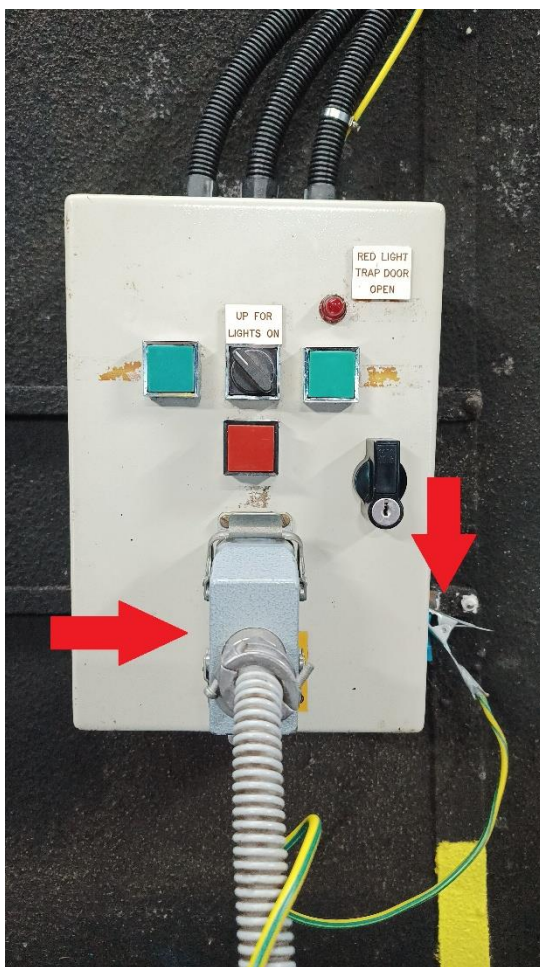

Fig. 15: Dome Control Box plug/earth connected
8) Switch the Control Panel Switch Box next to control panel to OFF (Fig. 14). Then plug back in the grey chunky plug into the Dome Control Box, ensuring the upper and lower clips on the plug are fully engaged (Fig. 15).